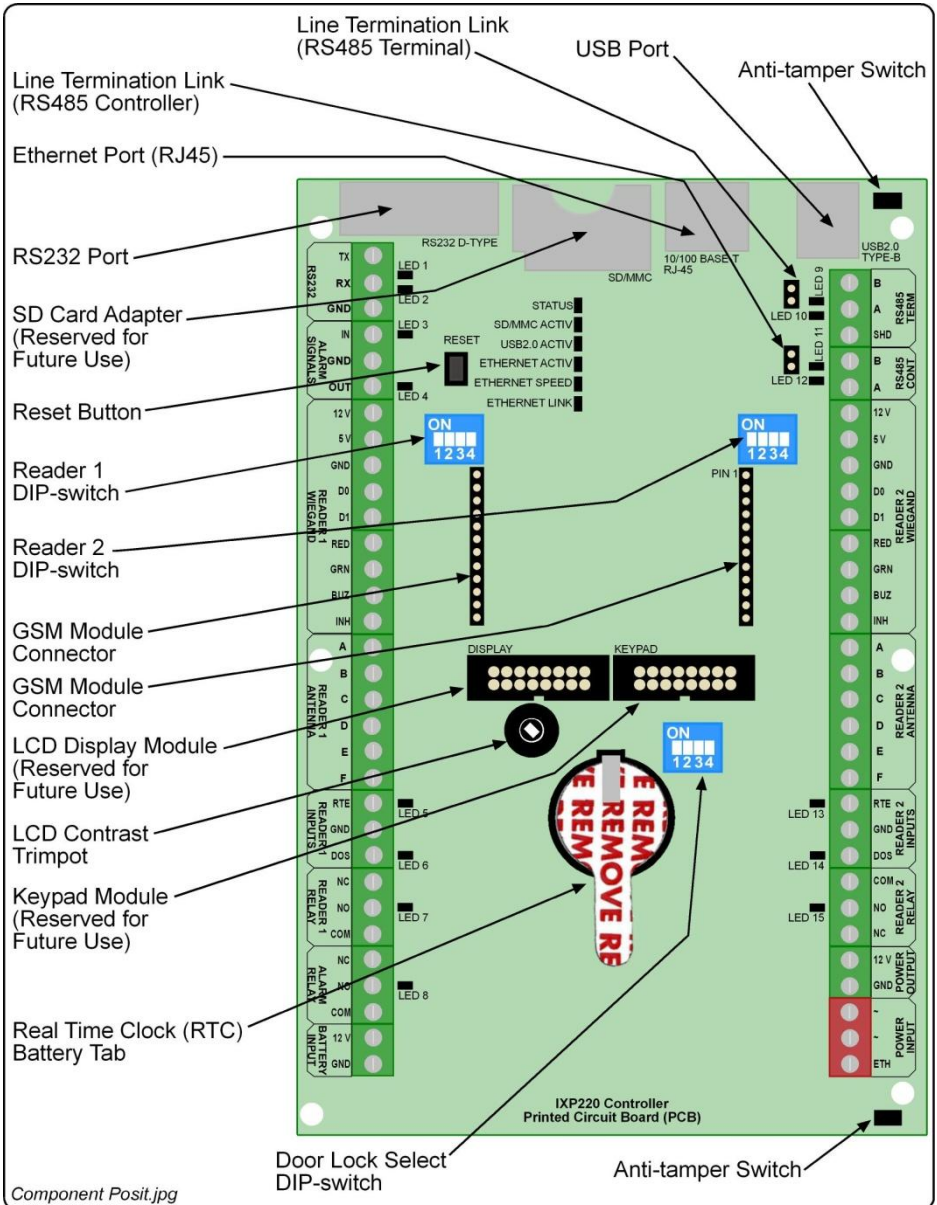

Figure 4: Key Component Positions
3. Locate the GSM Module Connectors (See Figure 4).
2. Locate the GSM Module Connectors (See Figure 4).
4. Plug in the GSM Adaptor ensuring that the Active LED is on the same side as Pin 1 (See Figure 4).
Using a 2 mm flat screwdriver, adjust the Trimpot (See Figure 4 for location) as follows: